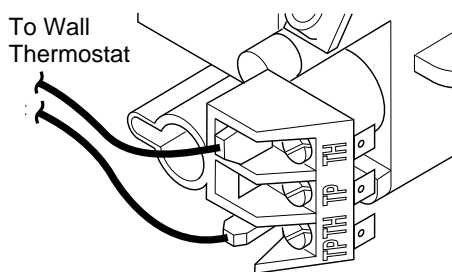

Figure 40 - Control Valve Terminals
3. Connect one terminal of 25 ft. wire for the wall thermostat to the TPTH terminal on the valve. Connect remaining wire terminal to the TH terminal on the valve. Make sure that the wire terminals are in the positions on the control valve as pictured in Figure 40. If wires are not connected as shown, the thermostat will not work.